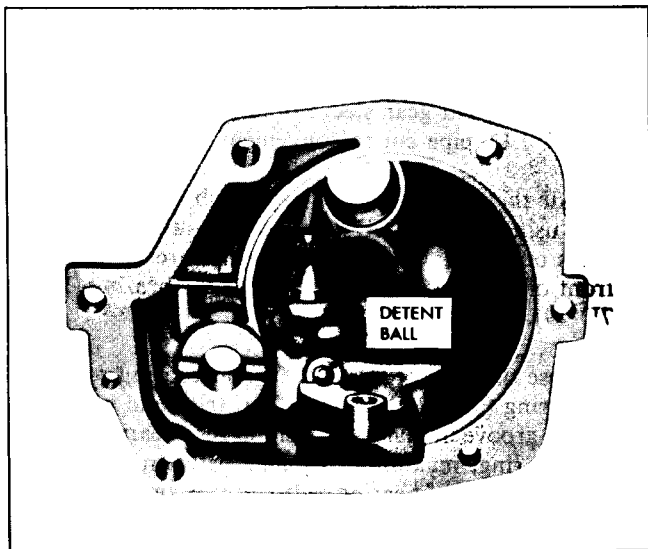

Fig. 7D-26 Installing Reverse Shifter Shaft and Detent Ball
5. Place detent ball on spring and, holding ball down with a suitable tool, push shifter shaft into place and turn until ball drops into place in detent on the shifter shaft (Fig. 7D-26).